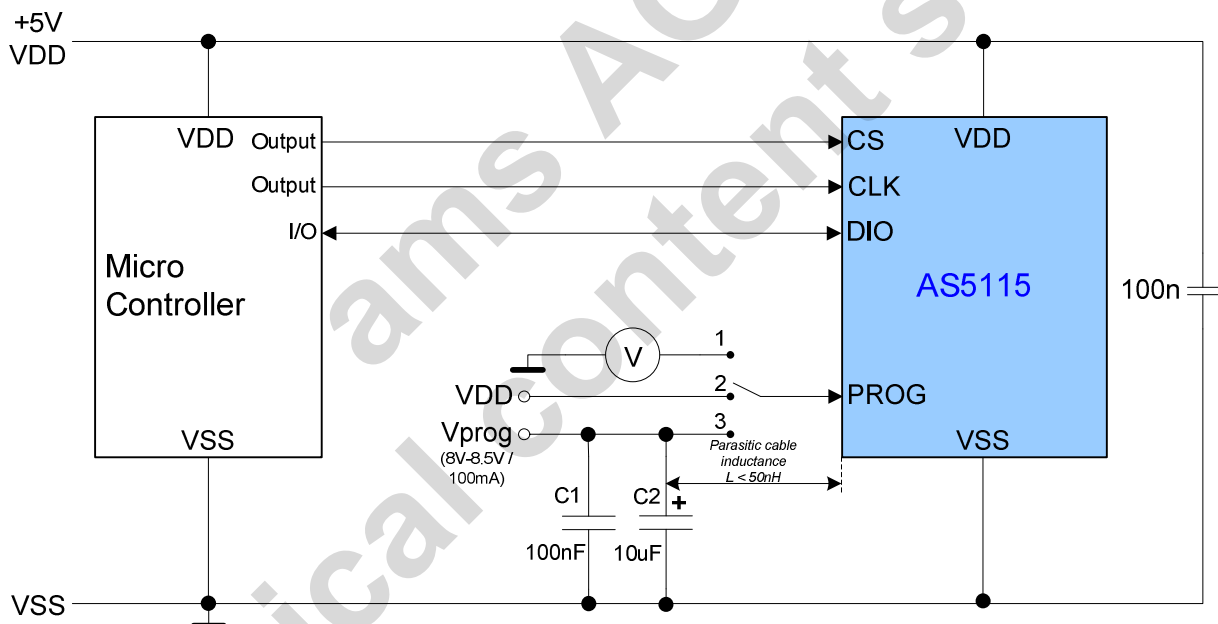

Figure 1: Programming circuit of AS5xxx
Note: During normal operation the PROG pin should be supplied with 5V (Figure 1, switch position 2)!
- Ensure that Vprog (8V-8.5V) is applied to PROG pin (Figure 1, switch position 3)
- Redirect PROG pin signal to voltmeter (Figure 1, switch position 1)